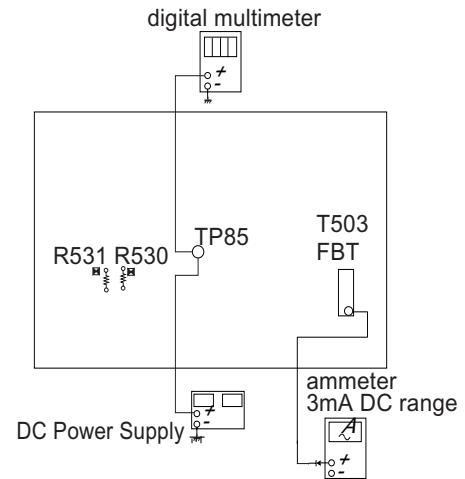

Figure 1
- Connect the current meter between Pin 11 of the FBT (T503) and the PWB land where Pin 11 would normally attach (See Figure 1).
- Connect the digital voltmeter and the DC power supply to TP85 and ground (See Figure 1).